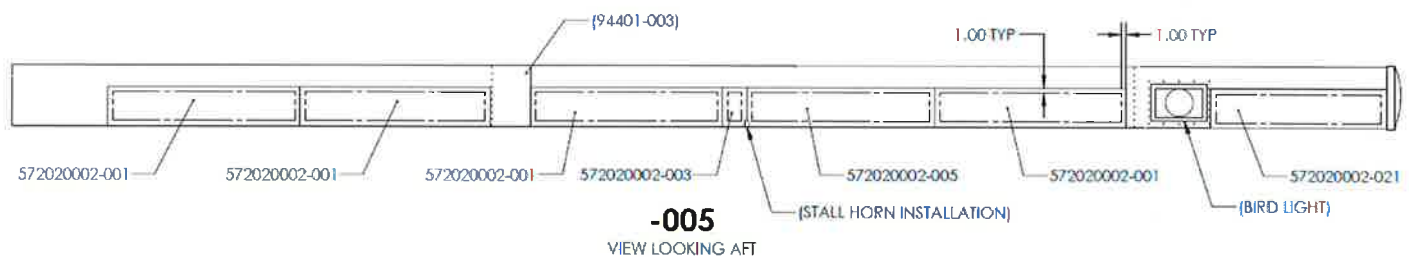

Figure 8-10
(Reference Figures 8-10 & 8-12)
3. Align -023 and -001 shields at bird light on both left and right wing. (Reference Figures 8-10 – 8-13)
4. Locate remaining shields on both wings as shown in Figures 8-10 through 8-13 starting with those located closest to rivet rows.